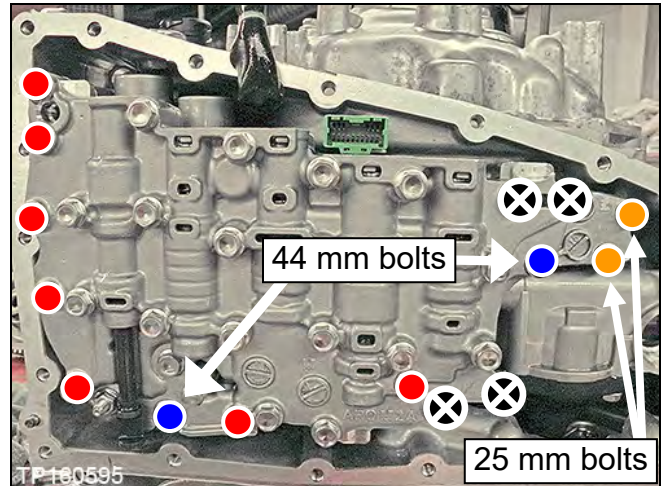

Figure 90
2. Install the valve body with eleven (11) mounting bolts (see Figure 90).
- 54 mm (2.125 inches) bolt (●) - seven (7) pieces
- 44 mm (1.73 inches) bolt (●) - two (2) pieces
- 25 mm (1 inch) bolt (●) - two (2) pieces
- For the converter housing side, use Seal Installer J-50394 and Driver Handle J-8092 (see Figure 90).